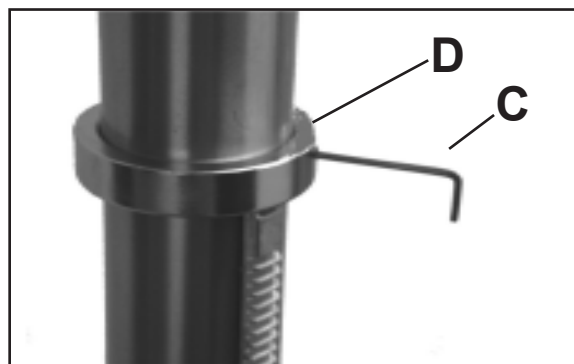

Figure 2
3. Using a hex wrench (C-Fig. 2) remove the column collar (D-Fig. 2) as shown.